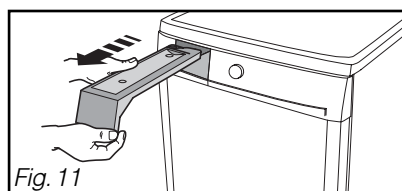

Fig. 11
- To empty it, release it from its housing by pulling it towards you (Fig. 11).